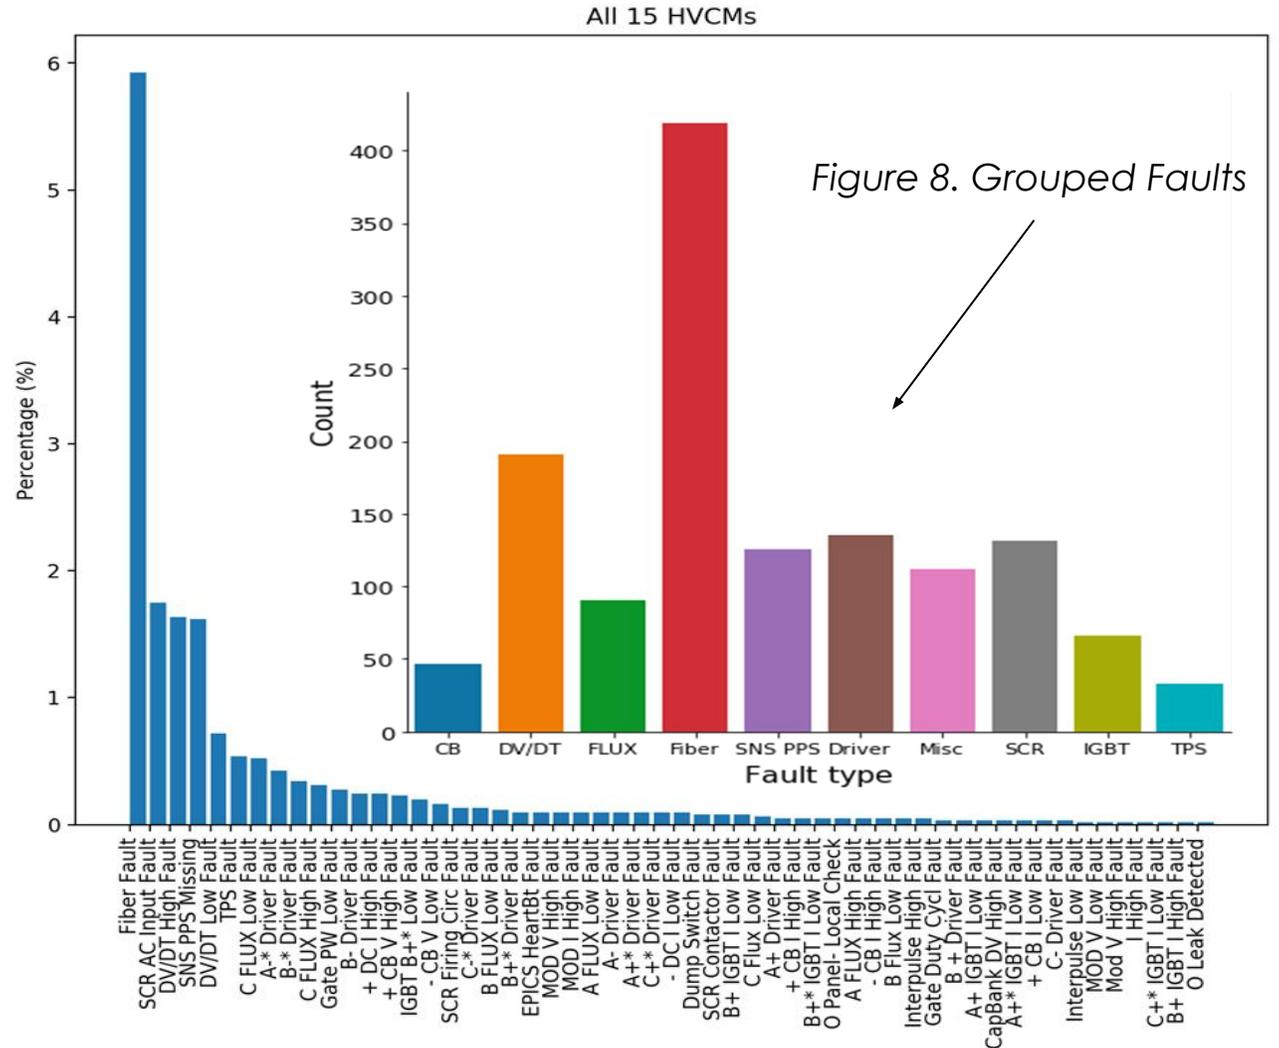

Figure 5. Percentage of abnormal waveforms of the overall data
- There are several fault types across the modules and there are more than 40 different types (Fig. 5).